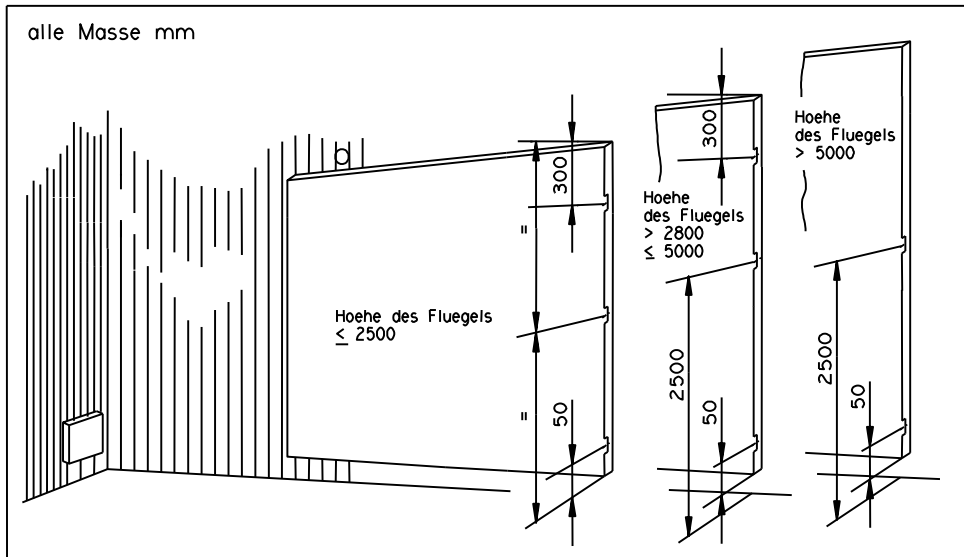

Figure 1: Measuring points at the leaf of a sliding door.
3.2.1.1 Measuring between the primary closing edge and the counter closing edge should be done in reference to figures 1 and 2 below: